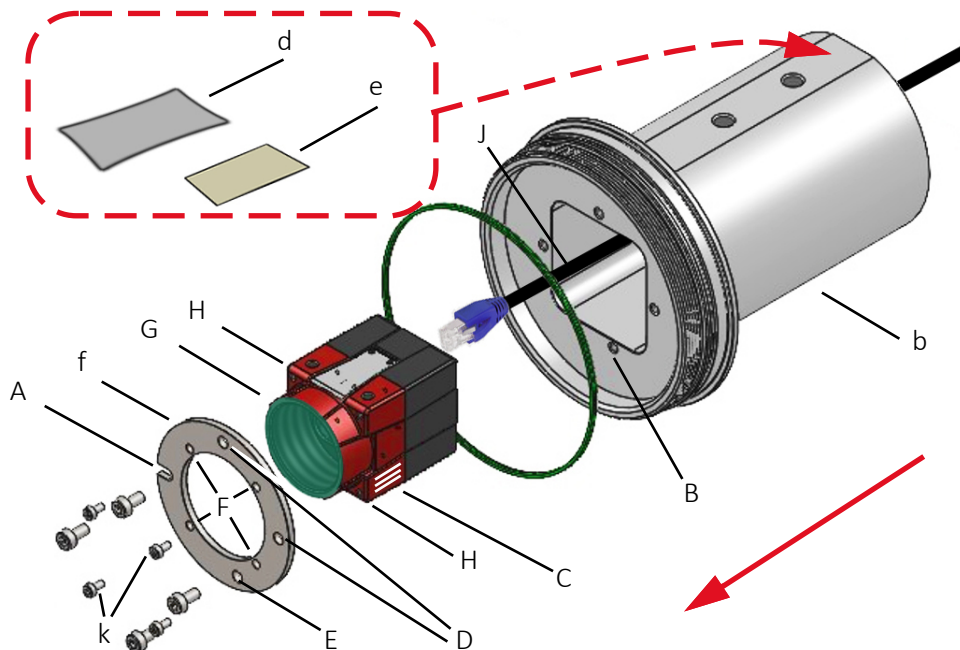

Figure 6: Connecting and mounting the camera
11. Feed a GigE interface cable (J) through the Camera Tube (b).
15. Put the camera and Camera Mounting Ring (f) into position as shown in Figure 6. For lateral mounting of the Camera Tube, rotate the parts accordingly.
Ensure that the M3 mounting hole (E) is located off the center to match M3 mounting thread (B) as shown in Figure 6.
16. Feed the camera's lens mount (G) through the Camera Mounting Ring (f).
17. Rotate the Camera Mounting Ring (f) to the camera to align the mounting holes of the Camera Mounting Ring (f) and the camera's mounting threads (H).
18. Feed the 4 M2 × 4 mounting screws (k) through the mounting holes (F) into the camera's mounting threads (H) and tighten at 0.18 Nm maximum torque.
19. Feed the 4 M3 × 6 mounting screws (i) through the mounting holes into the mounting threads (B in Figure 6) and tighten at 0.6 Nm maximum torque.